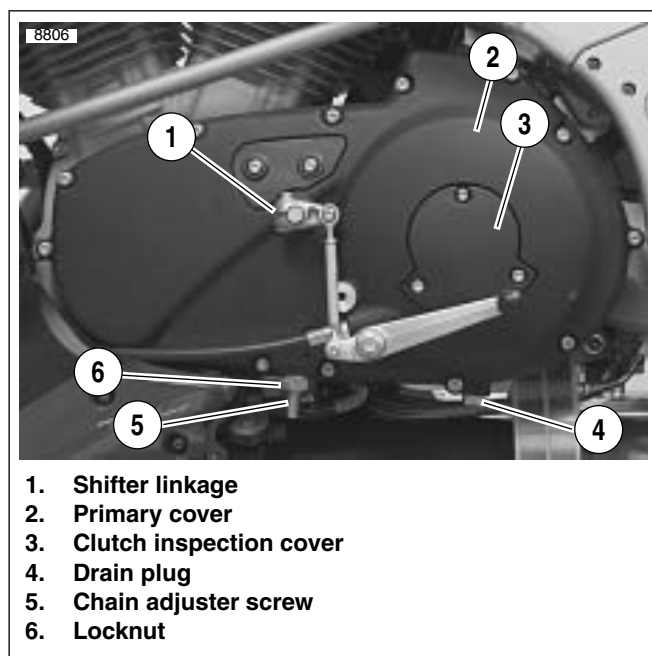

Figure 6-1. Removing Primary Cover
4. See Figure 6-1. Place a drain pan under the engine/primary area. Remove drain plug (4) and drain lubricant from primary drive.
7. See Figure 6-1. Loosen locknut (6). Turn chain adjuster screw (5) counterclockwise to remove tension on primary chain.